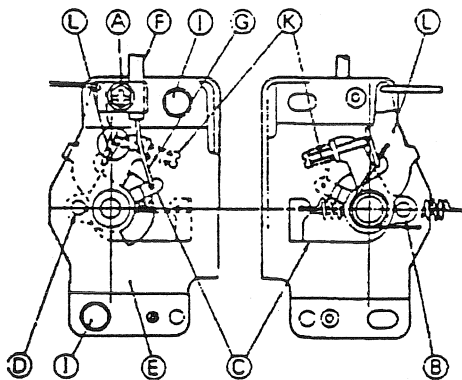

FIGURE 26
- Link throttle cable (G) to speed control lever (C) and clamp throttle cable outer housing (F) temporarily (Fig. 26).
- With throttle lever on dash in "FAST" position, align hole (B) of speed control lever (C) with hole (D) of control plate (E) and insert 5 mm (0.24 in.) dia. pin or 5 mm bolt through two holes (Fig. 26).
- Pull out throttle cable outer housing (F) to remove any slack and tighten cable clamp bolt (A) (Fig. 26).
- Remove 6 mm pin and set throttle lever on dash in "CHOKE" position. Make sure carb. choke valve is completely closed (Fig. 26).
- Loosen two control plate bolts (I) (Fig. 26).
- Align hole (B) of speed control lever (C) with hole (D) of control plate (E) and insert 6 mm (0.24 in.) dia. pin or 6 mm bolt through two holes (Fig. 26).
- d. Adjust fast idle speed for specified rpm (3275-3425 rpm) by moving control plate (E) (Fig. 26).
- e. Tighten two bolts (I) securely in a manner to avoid changing specified speed (Fig. 26).
- f. Stop engine, remove 6 mm pin, and set throttle lever on dash in "CHOKE" position. Make sure carb. choke valve is closed completely (Fig. 26).